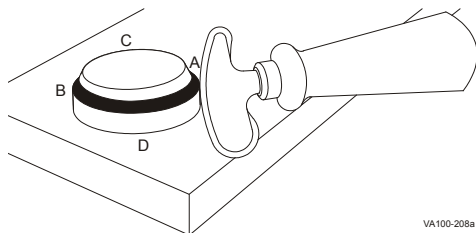

Figure 11 - Pressing Tri Ring Into Plug
4. Place the stem through a 1-1/8 inch (30 mm) hole bored through a board, secured by a vise. Start the Tri Ring as shown in Figure 11.